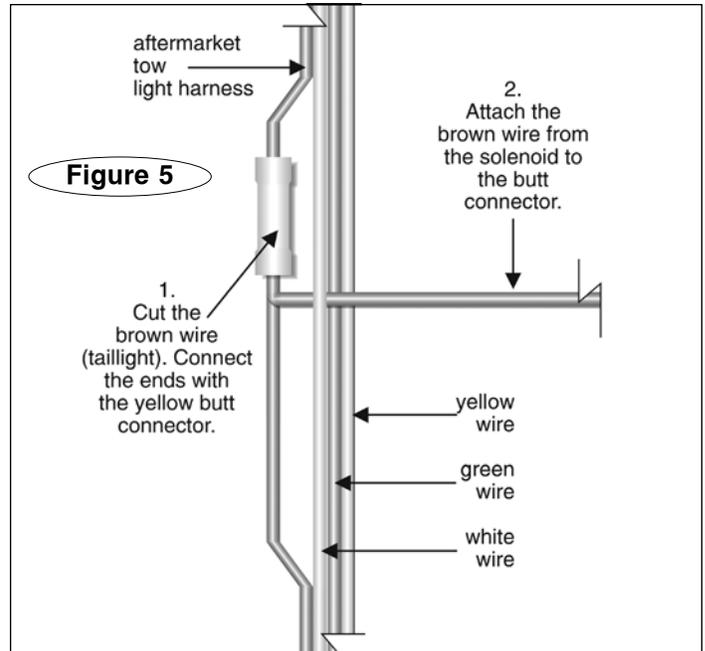

Figure 5
8. Attach the brown wire extending from the solenoid to the taillight wire in the towed vehicle's electrical harness (the 4-wire flat harness), as shown in Figure 5.